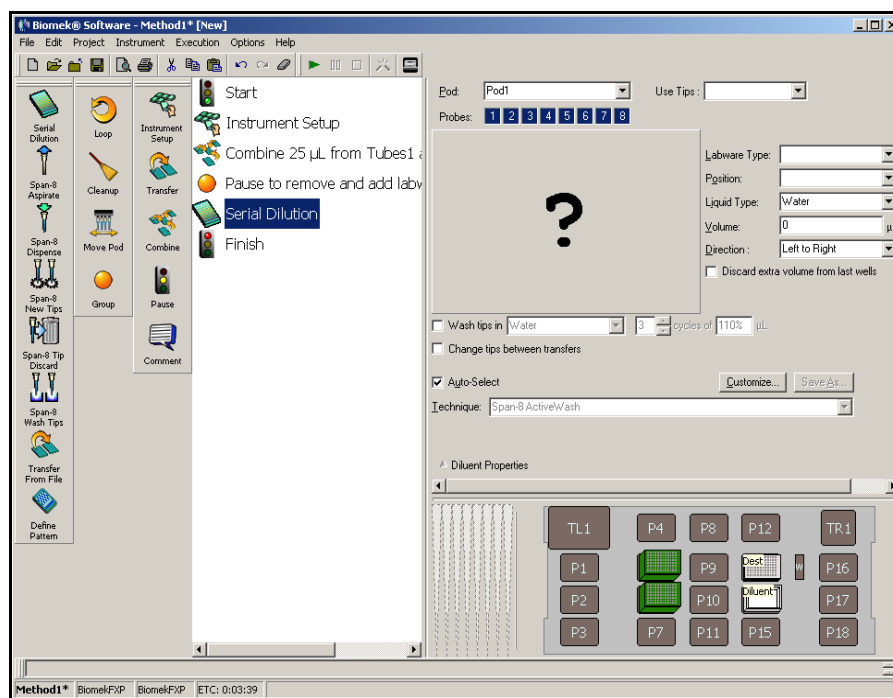

Figure 6-15. Serial Dilution step inserted
1. Insert a **Serial Dilution** step after the collapsed Group step (Figure 6-15).